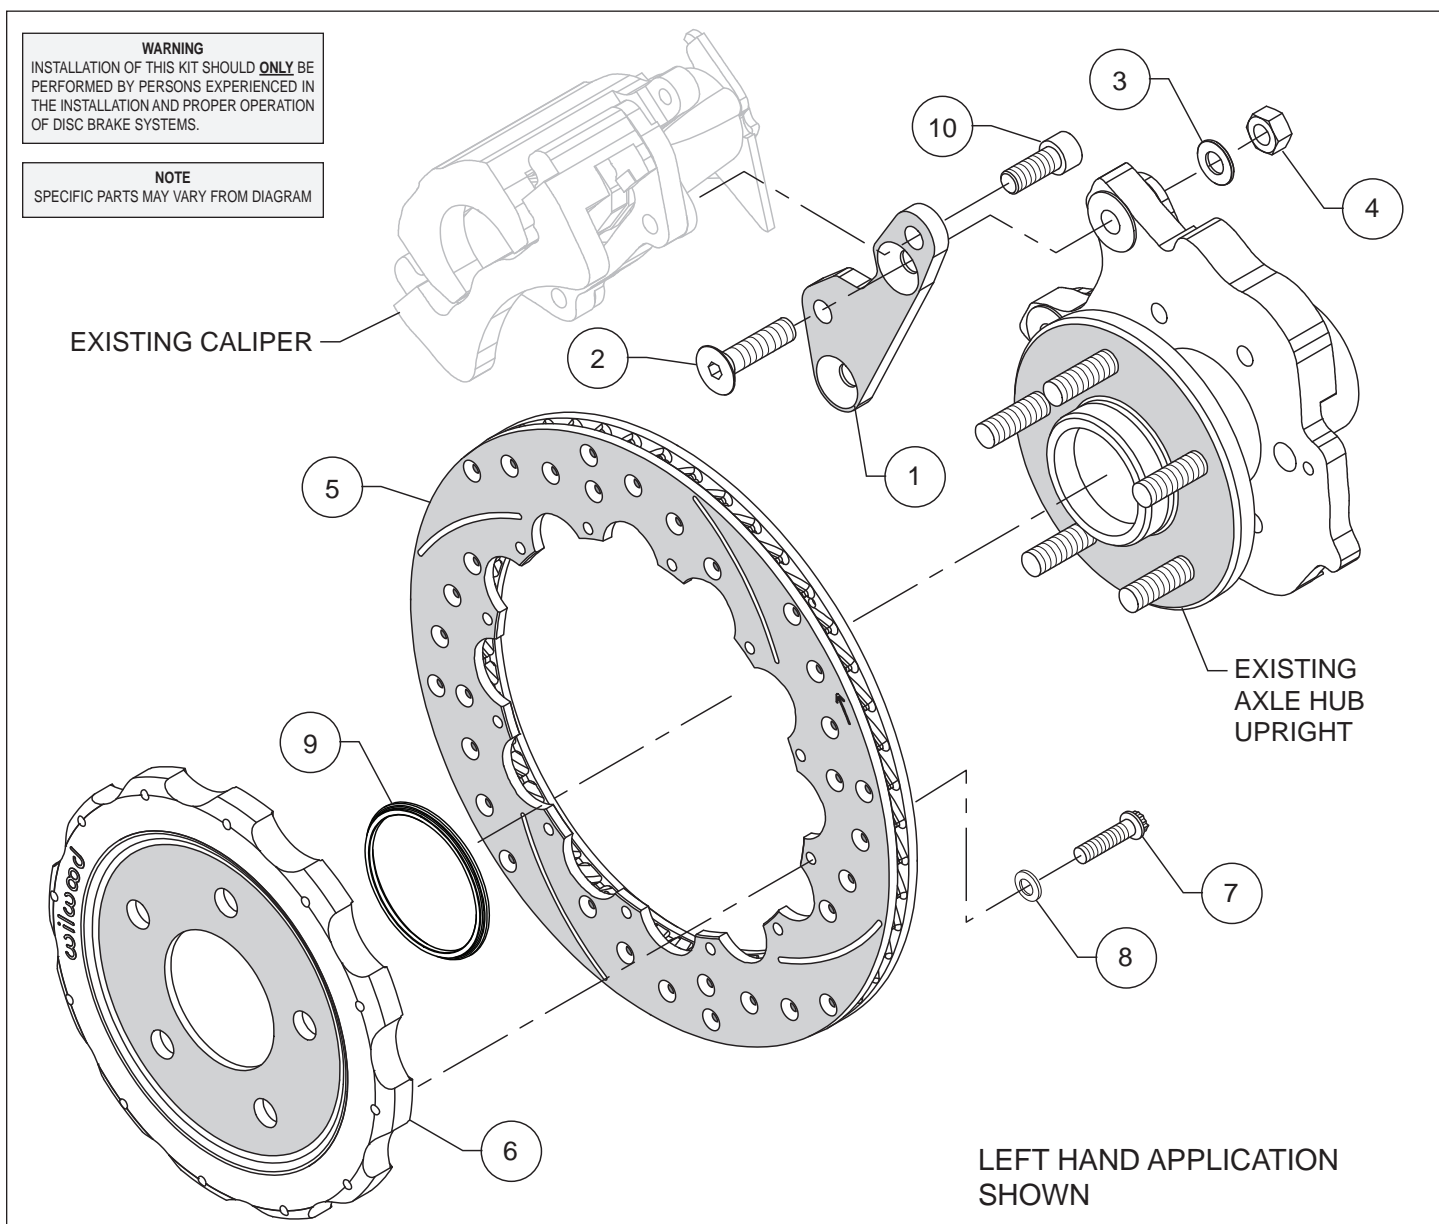
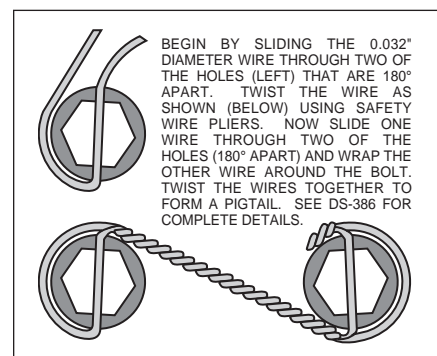

Figure 1. Typical Installation Configuration
Figure 3. Safety Wire Diagram
**Assembly Instructions** (numbers in parenthesis refer to the parts list and Figure 1 on the preceding page):
- The caliper mount bracket (1) should initially be installed with clean, dry threads on the mounting bolts. Orient the bracket as shown in Figure 1 and install using bolts (2) washers (3) and nuts (4). Temporarily tighten the mounting bolts. **NOTE: The bracket must fit squarely against the mounting points on the axle hub.** Inspect for interference from casting irregularities, machining ridges, burrs, etc. Remove bolts one at a time, apply red *Loctite*® 271 to threads, and torque nuts to 70 ft-lb.
- Orient the rotor (5) and the hat (6) as shown in Figure 1. Attach rotor to hat using bolts (7) and washers (8). Using an alternating sequence, apply red *Loctite*® 271 to the threads, and torque to 155 **in-lbs**. For an added measure of security, the bolts may be safety wired using standard 0.032 inch diameter stainless steel safety wire as shown in Figure 3. Please refer to Wilwood's data sheet DS-386 (available at [www.wilwood.com/Pdf/DataSheets/ds386.pdf](http://www.wilwood.com/Pdf/DataSheets/ds386.pdf)) for complete safety wire installation instructions.
- Slide the rotor registration adapter (9) onto the axle register on the axle flange with the smaller O.D. facing toward the hat/rotor (5/6). Slide the hat/rotor assembly onto the axle hub. **NOTE:** *The hat must fit flush against the axle hub flange or excessive rotor run out may result.* Install three lug nuts (finger tight) to keep the rotor in place while continuing with the installation.
- Mount the caliper (Shelby supplied) onto the caliper mounting bracket (1) using bolts (10) as shown in Figure 1. Torque caliper mounting bolts to 70 ft-lb.